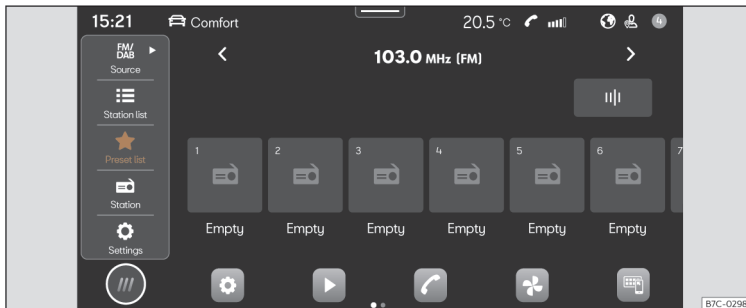

Fig. 152 Schematic diagram: Radio view.
- Press **HOME** > >>> **Fig. 152**.